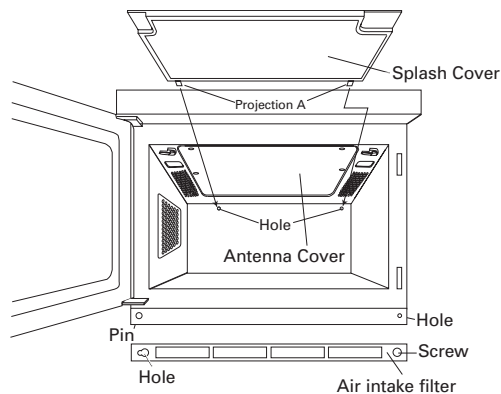

Fig.2
Remove the splash cover as shown in Fig. 2 and separate the frame from the cover.
Remember to unplug the power cord. Turn the 2 tabs holding the oven cavity ceiling as shown in Fig. 2, then gently pull the cover downwards to separate from the oven cavity ceiling. Then separate the cover from the frame. It is held in place by 4 catches.
Remember to unplug the power cord. Replace the cover in the frame. Insert projection A (2) into the 2 holes in the rear cavity wall and then insert projection B (2) into the 2 holes in the oven cavity ceiling as shown in Fig. 2. Then slide the tabs in place.